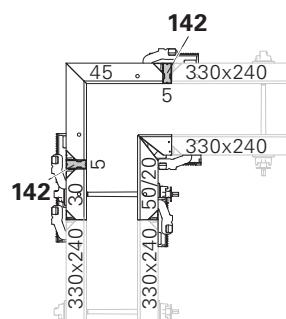

Fig. C1.05
- Fig. C1.05 + C1.05a + C1.05b